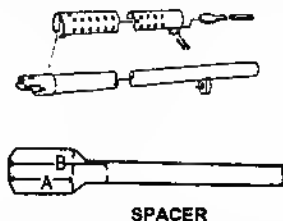

Fig. 17
- 5) Position the appropriate length plastic spacer or optional bushing style spacers between the forward clamp. Insert the two screws and start the two hex nuts on the screws using a 7/64" allen wrench and a 5/16" open end or box wrench. **DO NOT FULLY TIGHTEN THE TWO SCREWS YET** (Fig. 17).